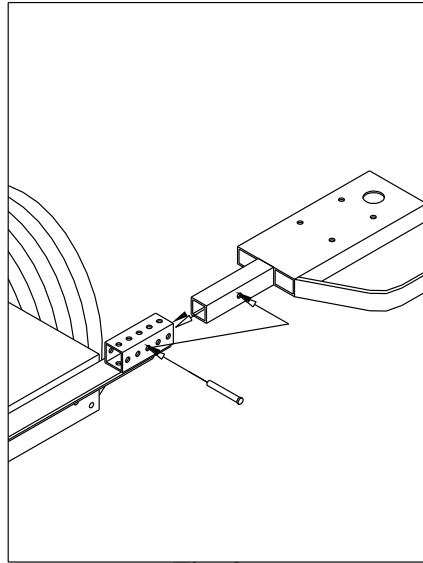

Fig. 2
2. Slide tube end of engine assembly frame (1) into tube on hitch. (Fig. 2) Align holes and secure with clevis pin (11) and #3 hairpin clip.